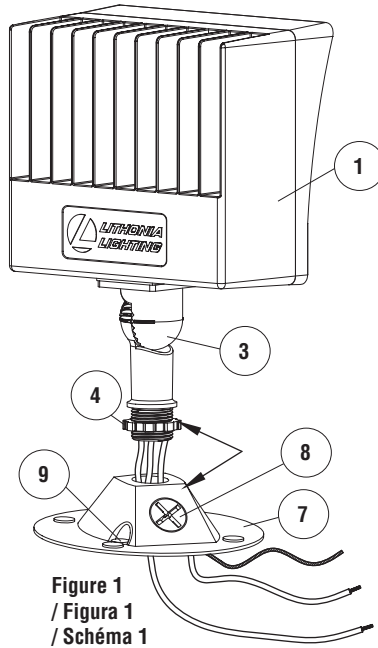

Figure 1
1. If necessary, adjust installation of Mounting Cover Plugs (8) for your preferred Housing (1) position on the Mounting Cover (7).
2. Apply silicone sealant to the threads on the Knuckle (3).
3. Pass wires through Mounting Cover (7) and carefully align the threads on the Knuckle (3) with the Mounting Cover (7), then turn the Housing (1) clockwise to secure the fixture to the cover (see Figure 1).